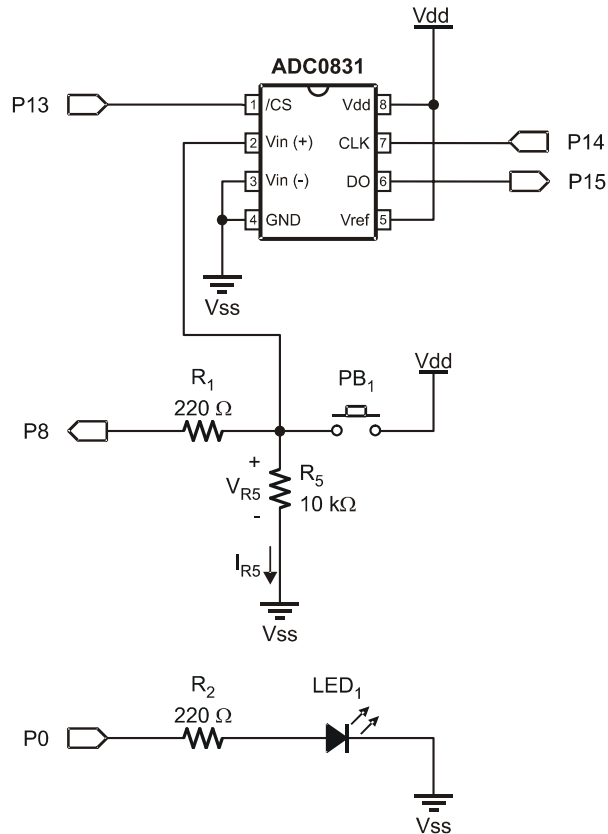

Figure 3-8
- ✓ Place a 10 k Ω resistor from the P8 side of the pushbutton to Vss as shown in Figure 3-8.